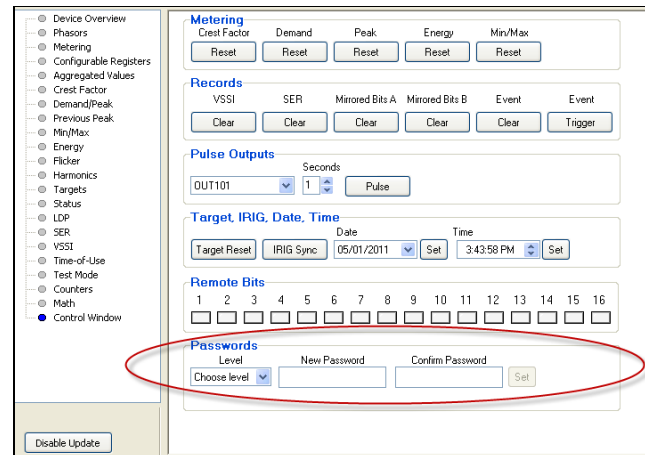

Figure 26 Control Window
- Step 3. Select the Level in the **Passwords** section for the Access Level that you want to change (see Figure 26).